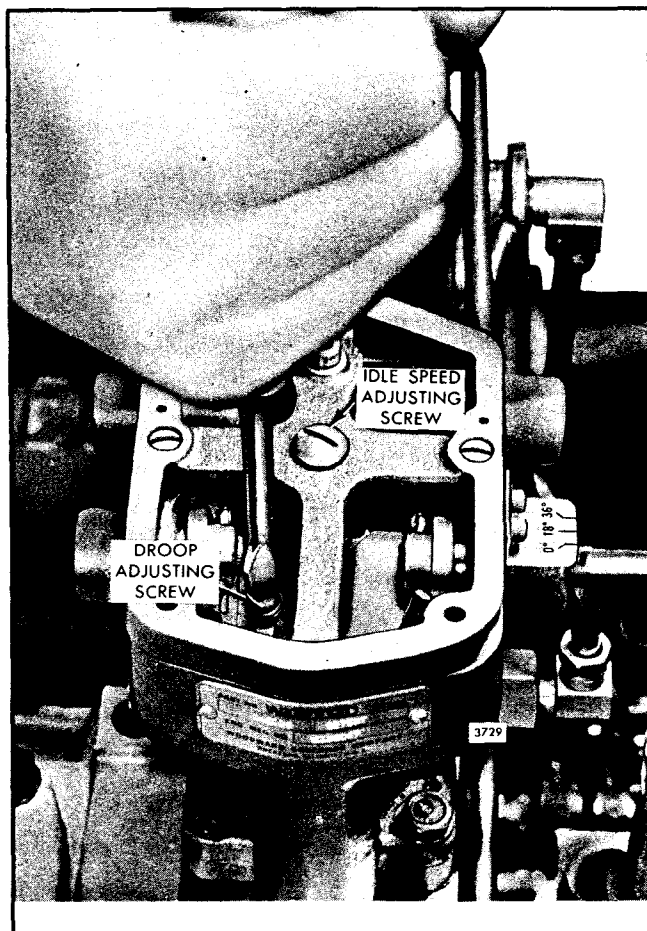

Fig. 7 - Adjusting Speed Droop
2. Set the governor speed droop bracket at its mid-position (Fig. 7). After the other adjustments are made, the speed droop may be increased if the engine speed is unstable.